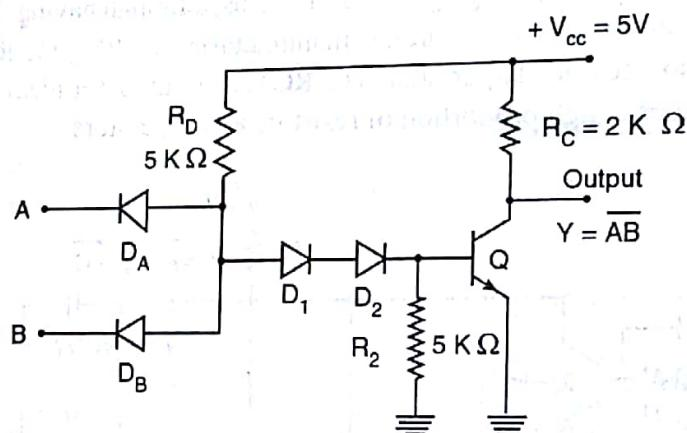

Fig. 4.5(a) Basic DTL NAND gate
**Noise immunity** The noise margin is high due to the additional diode ( $D_2$ ) connected in series with  $D_1$ . The noise margin of the DTL NAND gate circuit shown in Fig. 4.5(a) is 0.8V when the output is low and 3.4V when the output is high.